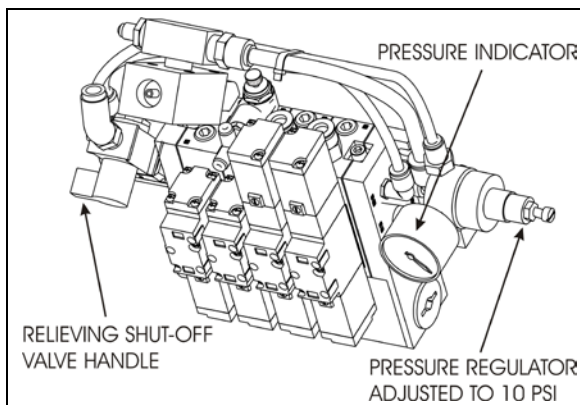

FIGURE 91: INFLATABLE SEAL RELIEVING SHUT-OFF VALVE
2. Deflate the inflatable seal by using the relieving shut-off valve located on the pneumatic component panel (Figure 91).
3. Deflate the inflatable seal by using the relieving shut-off valve located on the pneumatic component panel (Figure 91). Turn the handle clockwise to deflate the seal. Make sure the pressure indicator reading is "0 psi".